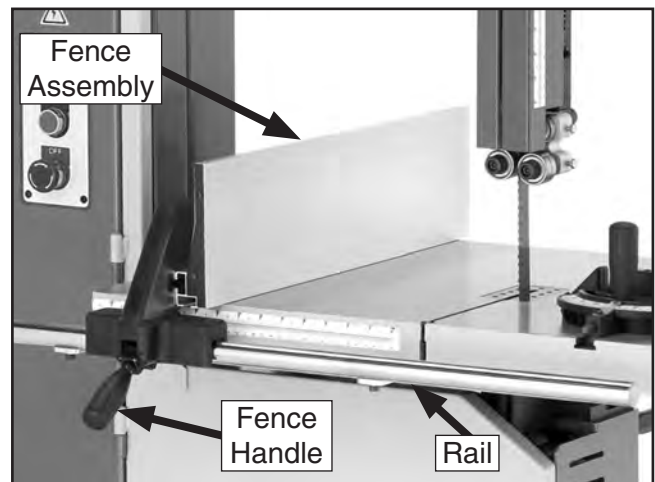

Figure 19. Fence installed on table.
3. Pull fence handle up and place fence assembly on rail, as shown in **Figure 19**.
4. Push fence handle down to lock fence assembly in place (see **Figure 19**).